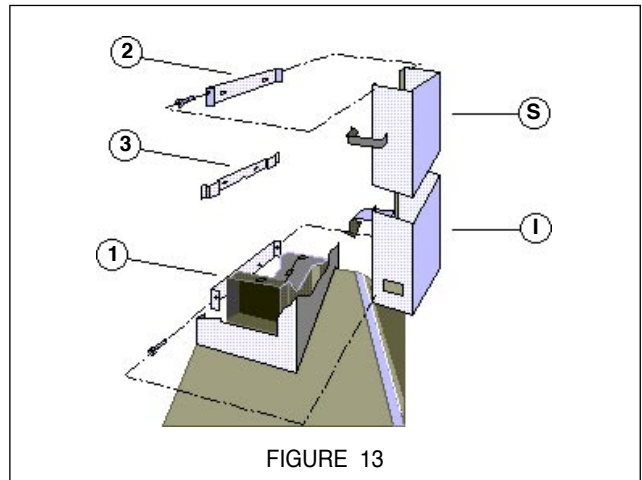

FIGURE 13
10. For ducted installations and ductless installations with the chimney, the chimney must be attached to the body of the rangehood. The upper section of the chimney (S) must be installed first, then the lower section (L). Both sections are secured to the wall under the mounting brackets as indicated in FIGURE 13. Once the chimney is in the final position, screws are used to secure the top and bottom of the chimney to the brackets.